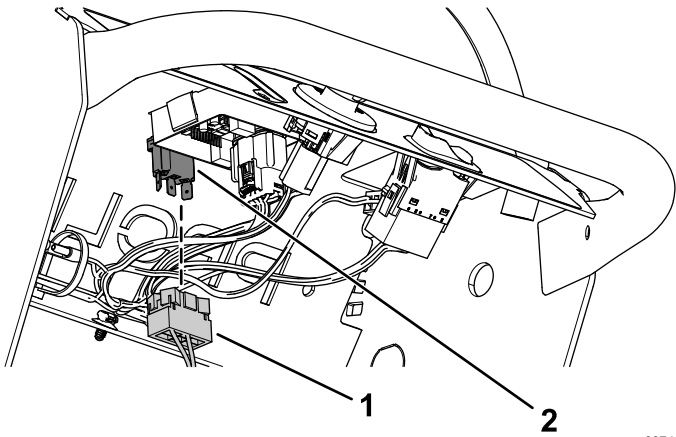

Figure 6
5. Plug the connector into the toggle-switch connector (Figure 6).